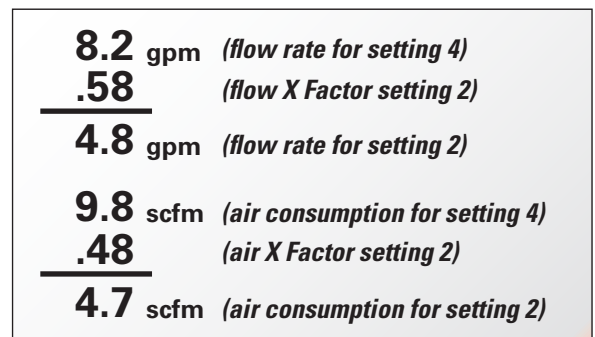

Figure 3
**FIGURE 3** At completion of the stroke, the air valve again redirects air to the back side of diaphragm A, which starts diaphragm B on its exhaust stroke. As the pump reaches its original starting point, each diaphragm has gone through one exhaust and one discharge stroke. This constitutes one complete pumping cycle. The pump may take several cycles to completely prime depending on the conditions of the application.
**Step 3: Calculating performance for specific EMS setting.** Multiply the flow rate (8.2 gpm) obtained in Step 1 by the flow X Factor multiplier (0.58) in Step 2 to determine the flow rate at EMS setting 2. Multiply the air consumption (9.8 scfm) obtained in Step 1 by the air X Factor multiplier (0.48) in Step 2 to determine the air consumption at EMS setting 2 (Figure 3).